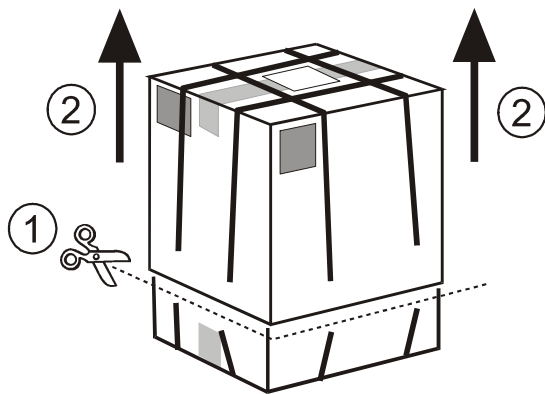

Fig. 1 Cut the packing strips and lift away the top of the shipping container.
- Cut the packing strips ① and remove the top of the shipping container ② (Fig. 1).